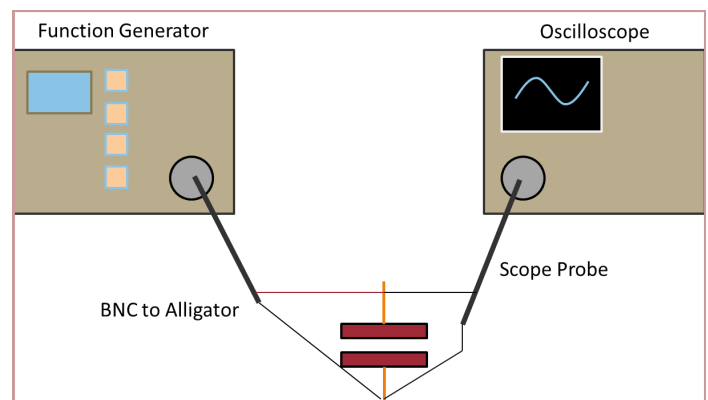

Figure 11. Diagram of test set-up for Postlabs 1 and 2.
6. Use a 50-ohm BNC to alligator clip cable and connect the output of the function generator to the capacitor you are testing. Connect the oscilloscope probe to the capacitor as well. Adjust the frequency until the peak-to-peak measurement on the screen is around 50% of the initial value. This corresponds to the output voltage being halved due to the voltage divider formed by the 50-ohm output impedance and the 50-ohm reactance of the capacitor. The test set-up is shown in Fig. 11.
1. Keep the same test set-up from Fig. 11. You should have a set of electrolytic capacitors of various values either in your parts kit or provided to you by the instructor.
2. For each capacitor note the value and the voltage rating. Place the capacitor in the test set-up from Fig. 11. Increase the frequency on the function generator and note that measured voltage across the capacitor continues to decline. Keep increasing the frequency until eventually, the measured voltage begins to rise. This is due to the inductive component of the capacitor. Calculate the inductance at a test point. A good point to use the point where the voltage is half. This is because the reactance is 50 ohms at that point and it would be easy to calculate the inductance. For some smaller values of capacitors this may not be possible because the capacitor doesn't have 50 ohms of inductive reactance within the possible frequency range of the function generator.